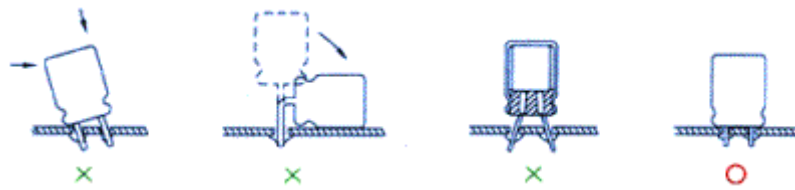

figure 14. The placement of capacitors^[5]
- Care must be taken for the different placement as shown in figure 14.